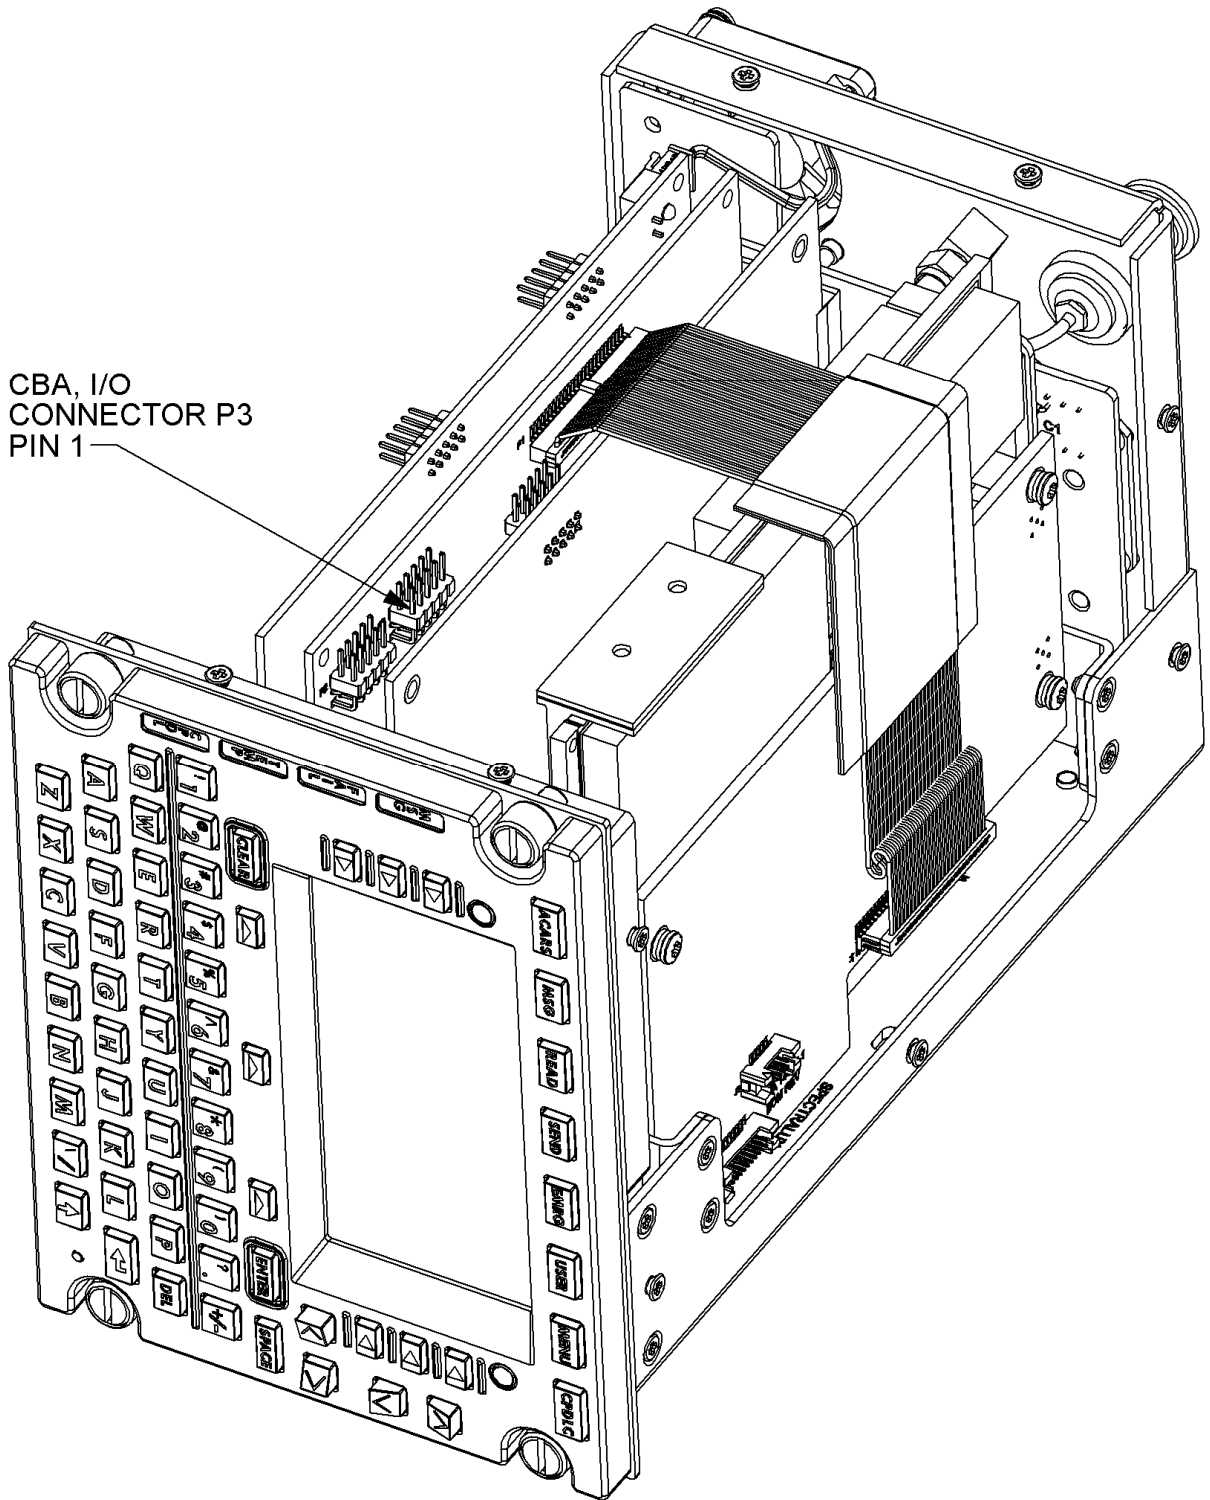

Figure 4. IO Programming Connector
- J. Remove the USB-ML-PPCBDM ribbon cable from the SBC and attach to P3 on the IO CBA. Install so that the red edge of the ribbon cable is nearer to pin 1. See **Figure 4. IO Programming Connector.**